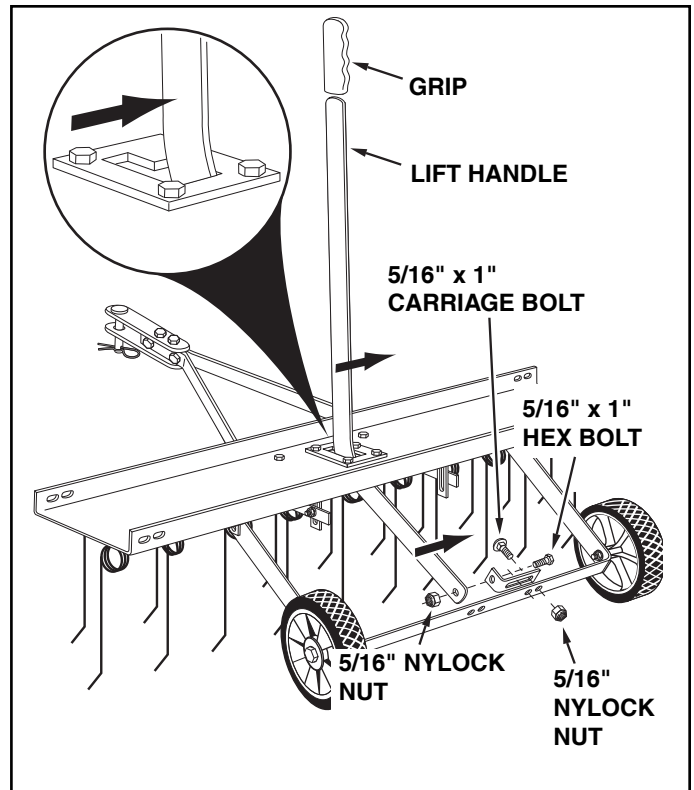

FIGURE 6
- Assemble a hitch arm mount bracket to the axle bracket using two 5/16" x 1" carriage bolts and 5/16" nylock nuts. **Do not tighten yet.** See figure 6.
- Insert the lift handle down through the tine shield. Attach it to the just assembled hitch arm mount bracket using a 5/16" x 1" hex bolt and a 5/16" nylock nut. **Tighten.** See figure 6.
- Position the hitch arm mount bracket so that there is side tension on the lift handle when it is locked in the up position. **Tighten** the nuts. See figure 6.
- Assemble the grip onto the end of the lift handle. See figure 6.